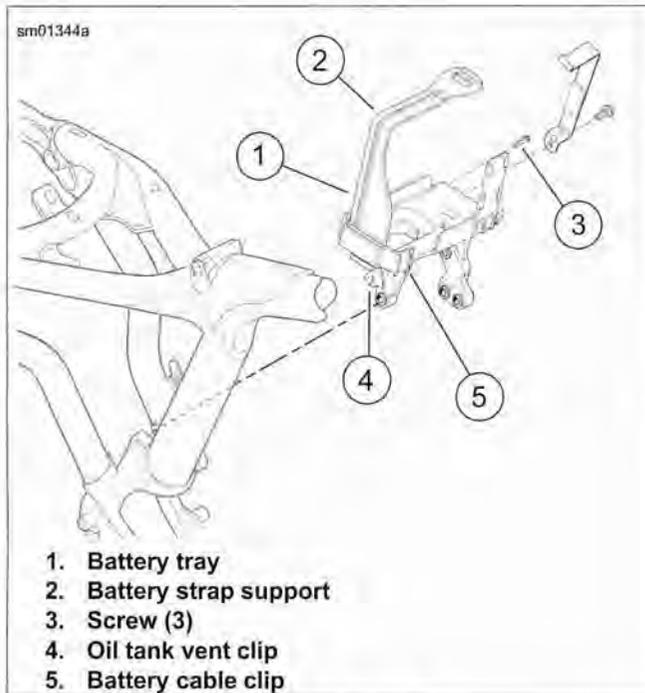

Figure 6-27. Battery Tray
5. See Figure 6-27. Remove three fasteners (3) securing battery tray to mounting tabs on frame.
6. Lift up battery tray slightly so that mounting tabs will clear mounts on frame. As you lift up on tray, pull down gently on end of battery strap support (2) to clear frame and wiring harnesses above battery tray.
2. See Figure 6-27. Slide battery tray (1) into place. Make sure battery tray mounting tabs are positioned behind (to the right of) frame mounts.
4. Install three screws (3) to secure battery tray to frame. Do not tighten screws until all three have been started. Then tighten screws to 96-156 **in-lbs** (10.9-17.6 Nm).